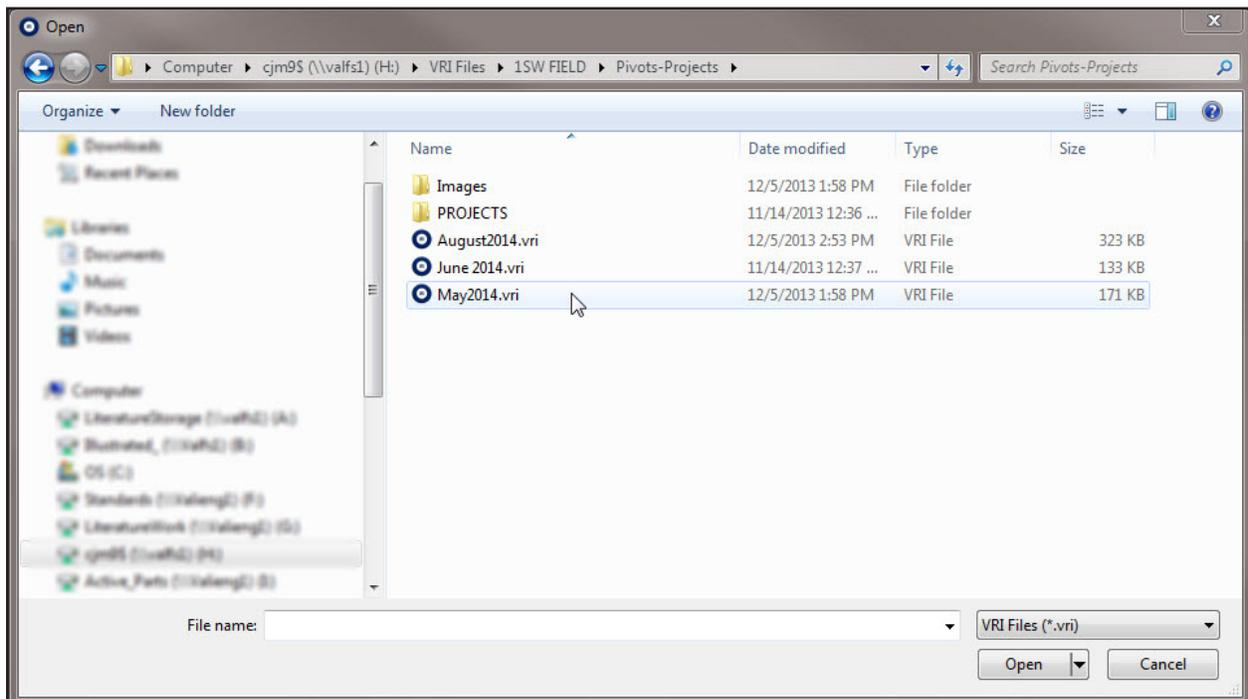

Figure 26-2 Open Project From Folder
2. Click on **Open Project**, locate it in the appropriate project folder, and click on it to open it. (Refer to Figure 26-2.)